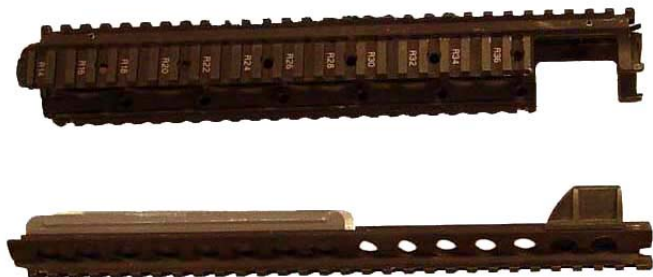
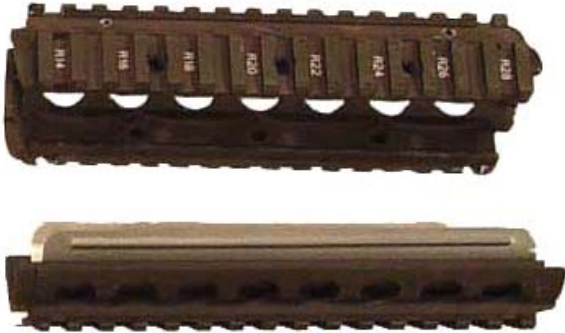

Figure 1-4. Rail Adapters - M16A2 / M16A4 Rifle
Figure 1-5. Rail Adapters - M4 / M4A1 CQBW Carbine
- a. General. The installation of the Rail Adapter System (RAS) has no effect on the attachment or operation of any current standard accessory. The RAS will not affect the use of the Multiple Integrated Laser Engagement System (MILES), the M7 and M9 bayonets, the M15A2 and M23 blank firing adapters, the top carry sling adapter and standard sling. All are mounted in the standard positions and operated in the standard way. With the lower rail quadrant removed (use the same manner as the standard lower handguard), the 40mm M203 Grenade Launcher will mount under the barrel in the standard location. The M203 Grenade Launcher can be secured by the M203 Quick Attach / Detach (QD) Grenade Launcher Mount or the original factory mount.
- b. Rifle or Carbine. The rifle and carbine rail adapter system consists of the MIL-STD-M1913 rail adapter and handguards. Refer to Figure 1-4 and Figure 1-5.